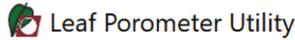

Figure 18 Leaf Porometer Utility application
- Open Leaf Porometer Utility (Figure 18).